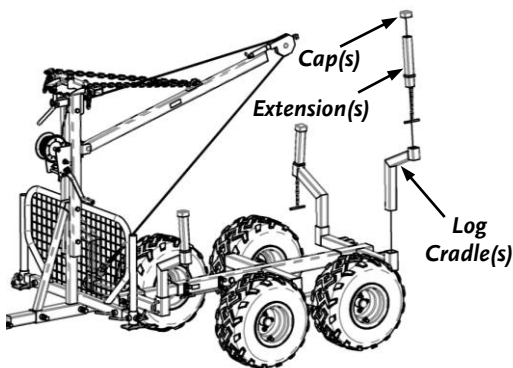

Figure 43
- Insert the Log Cradles (**Figure 43**), with the angled portion of the Cradles facing outwards.
2. Slide the four Log Cradles into the Slots in the Main Frame (**Figure 43**, page 20). Depending on the height of the Logs in the Trailer, you may want to use the Log Cradle Extensions by sliding them into the Log Cradles (**Figure 43**, page 20).